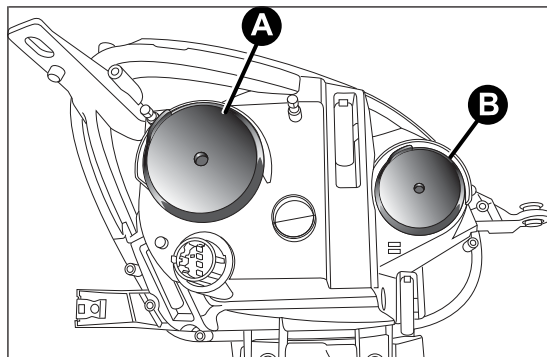

fig. 127
These contain the bulbs for the dipped beams, main beams and direction indicators. The bulbs are arranged as follows fig. 127:
- ☐ remove cover A fig. 127;
- ☐ then refit the cover A fig. 127.
- ☐ remove cover B fig. 127;